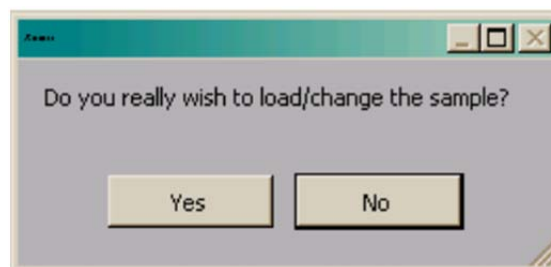

Figure 3
- 1) Press the **“Load/Unload Sample”** button. The system will go through prompts to ensure a correct decision (Figure 3). Press Yes if you’re sure. This prompt is provided since the load/unload process can be time consuming and is inconvenient if accidentally started.